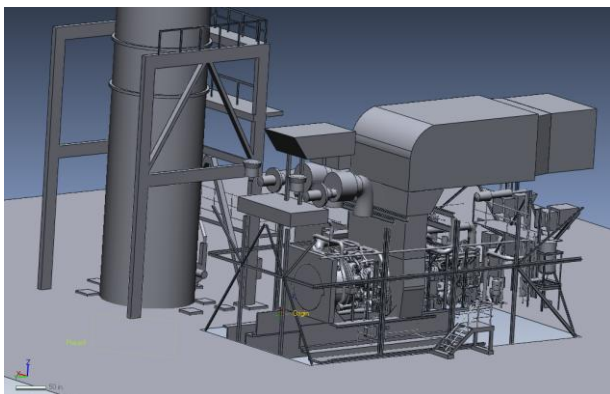

Figure 3 – Global Alignment
- Model is aligned to the customer specified coordinates to meet existing refit models. (Figure 3)